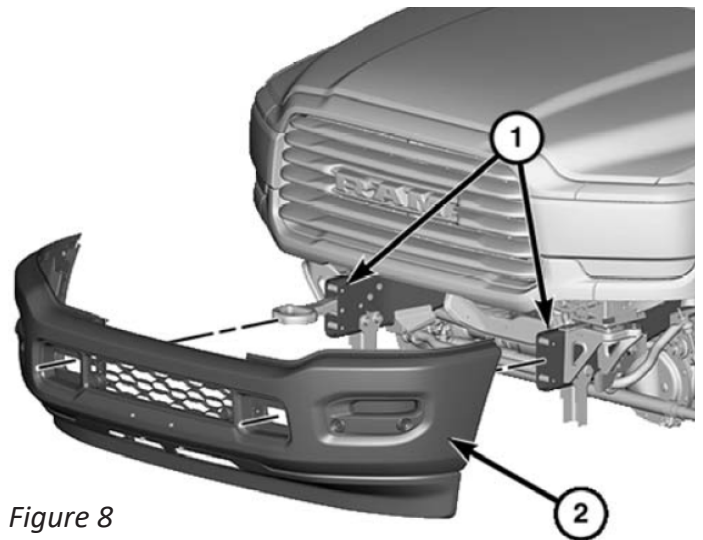

Figure 8
8. Remove the factory bumper from the vehicle and set aside. (Figure 8)